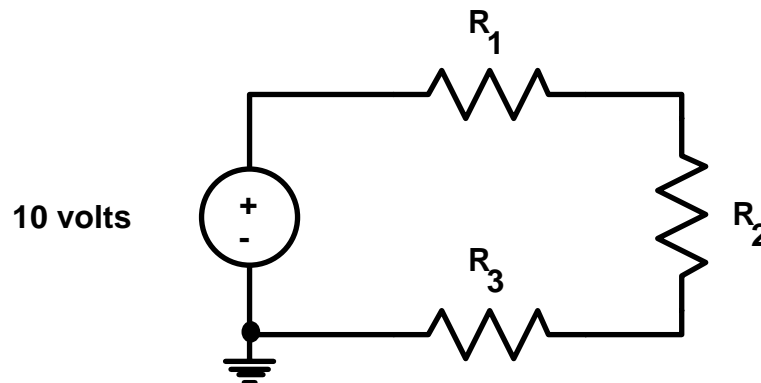

Figure 2.2: $R_1 = R_2 = R_3 = 1\text{k}\Omega$ (nominal)
(3) Now assemble the simple circuit in Figure 2.2 using the three $1\text{k}\Omega$ resistors measured in Step 1. Measure the voltage across each of the resistors using the "DC voltage" function of the multimeter.